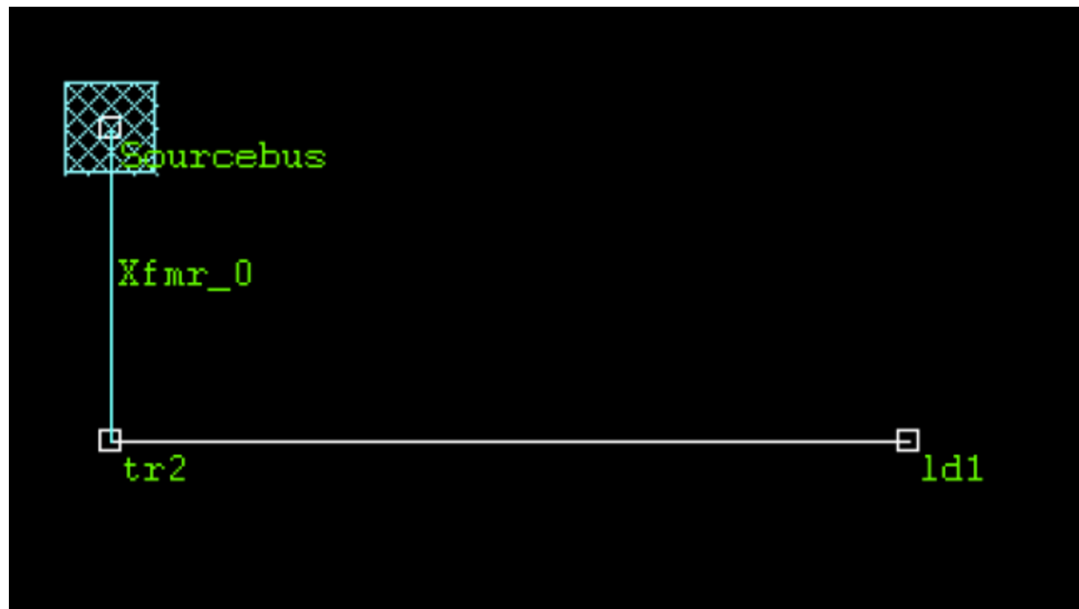

Fig.9. Substation, transformer, and line placed
- The final result of placing the line is shown in Fig.9.